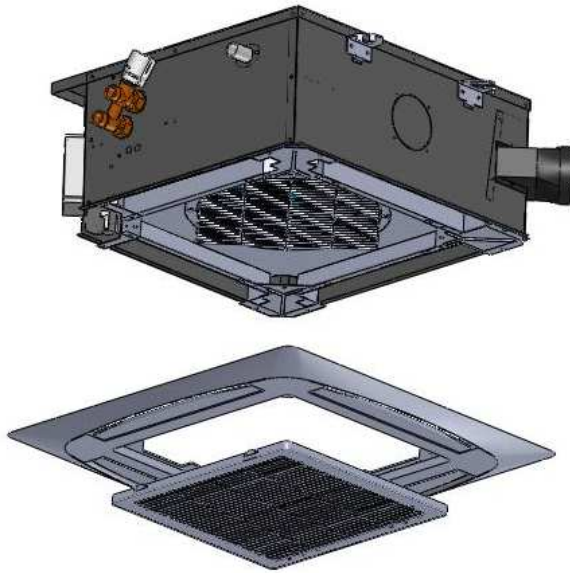

Figure B.14.1
3. Tighten 4 partially threaded screws to attach the front panel as shown in Figure B.14.1 and Figure B.14.2. The front panel does not move upwards excessively because the screws are not fully threaded (see below Figure B.14.3). Therefore, the height of false ceiling and installation height should be measured accurately to ensure there is no gap between the false ceiling and the front panel.